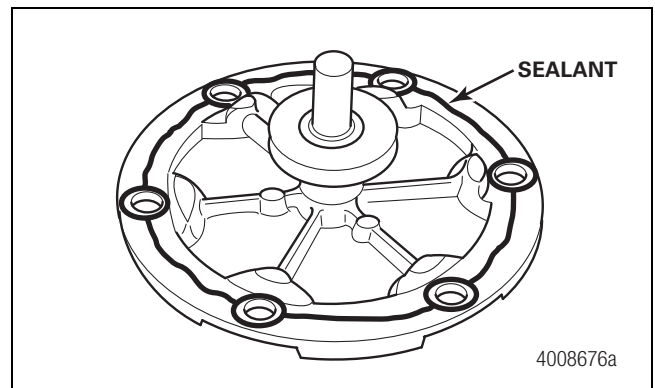

Figure 11.16
7. Apply a continuous 0.24-inch (6 mm) bead of Meritor specification 2297-H-7054, Loctite® 5699 RTV sealant to the inner face of the cover plate. Figure 11.16.